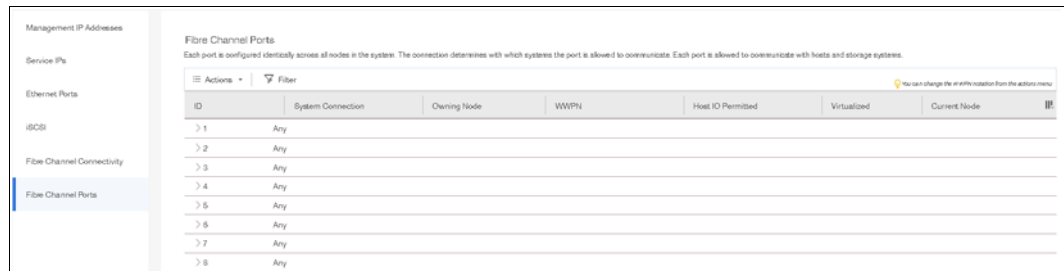

Figure 5-52 The Fibre Channel Ports view
2. Select **Fibre Channel Ports** and the Fibre Channel Ports configuration view displays, as shown in Figure 5-52.